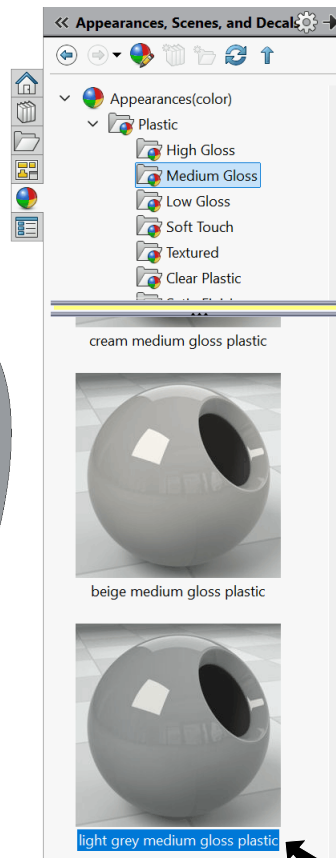

Fig. 8
Step 2. In the Appearances Task pane, expand **Plastic**, click **Medium Gloss** and in the lower pane select **light gray medium gloss plastic**, Fig. 8.